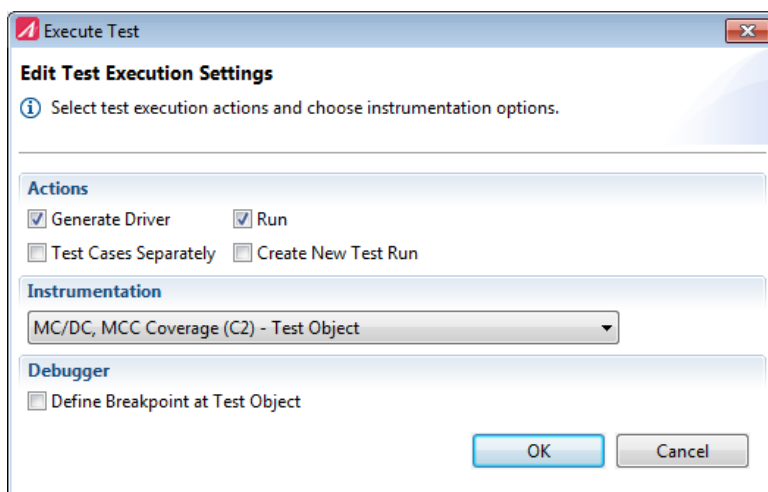

Figure 5.19: Selecting Branch and MC/DC Coverage for test run
- Tick the boxes for “Branch Coverage (C1)” and “Modified Condition / Decision Coverage (MC/DC)” (see figure 5.19).